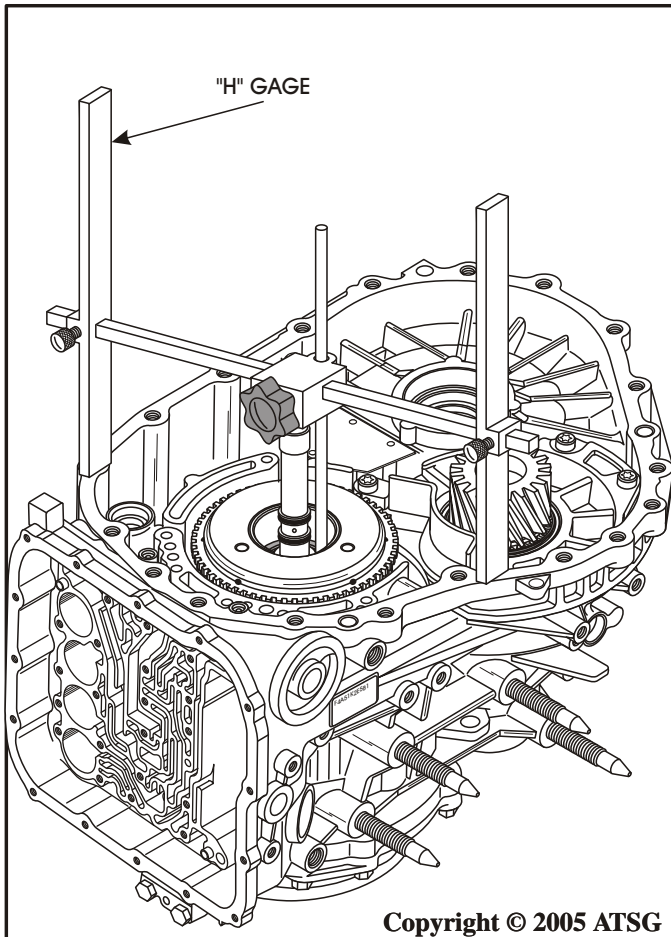

Figure 198
91. Install the "H" gage on transaxle, as shown in Figure 198, and let the adjustment leg down to rest on the selective thrust washer.